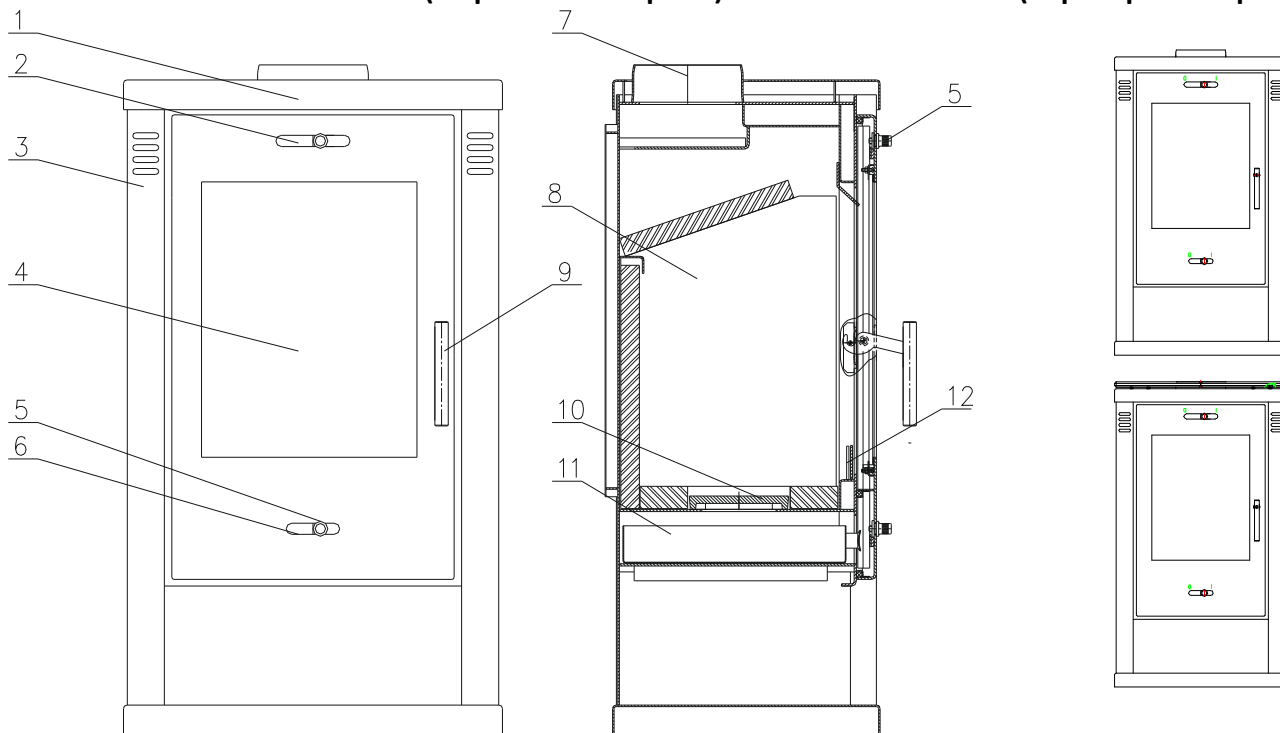

Fig.1.
- Primary and secondary air are controlled by handle (Fig 1, Pos. 5). Closed is position "0", and open at maximum at the opposite side
- Primary air and the combustion rate is adjusted by regulator (Fig. 1, Pos. 6). During initial ignition the regulator have to be in open position and after the fire is stable the regulator must be closed (Table 2).
- Secondary air is used for complete burning of the fuel and helps to prevent accumulating of dust on the glass. Secondary air is adjusted by regulator (Fig.1, Pos.2). Position of the regulator must be open in accordance with Table 2.